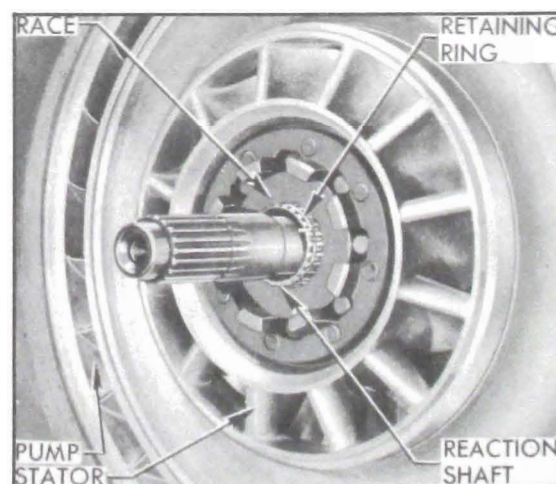

Figure 4-14—Converter Stator Mounting
7. Remove retaining ring from groove in reaction shaft and slide the converter stator and free wheel roller race from reaction shaft. See figure 4-14. Remove stator bearing from reaction shaft if it did not come out with the stator.
2. Make sure that the ball bearing is properly seated in the converter stator, then install this unit on the reaction shaft while pushing against the roller race to keep it from sliding out of place. Install stator retaining ring in groove in reaction shaft. See figure 4-14.